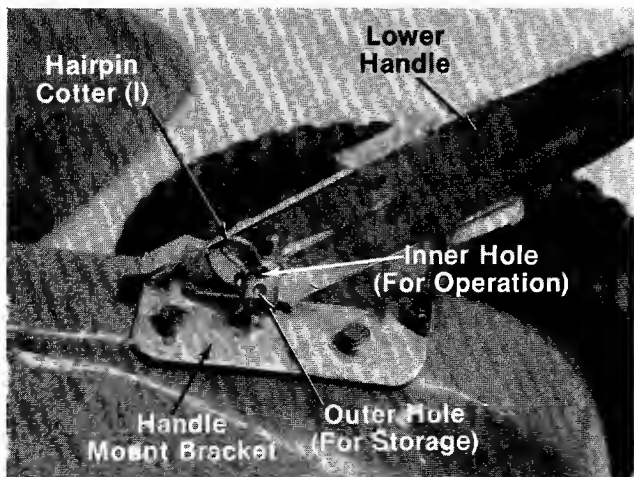

FIGURE 3.
- K (1) Battery
- L (1) Battery Charger
- M (1) Upper Handle (Not Shown)
- N (1) Lower Handle (Not Shown)
3. Place lower handle in position over weld pins in handle mount brackets on deck. Make certain the instruction label on the lower handle can be read from the operating position. Secure by placing two hairpin cotter (I) in inner hole on weld pins. See figure 3.